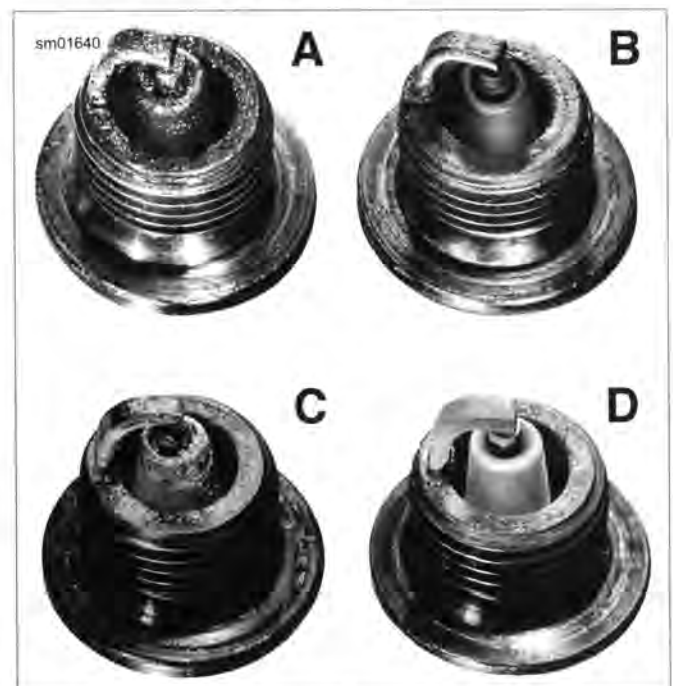

Figure 1-35. Typical Spark Plug Deposits
3. See Figure 1-35. Compare your observations of the plug deposits with the descriptions provided.